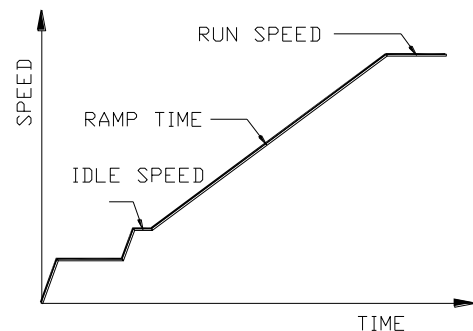

Figure 1
- (1) Before firing the engine, adjust the IDLE Speed to the maximum, and Ramp Time to the minimum.
- (2) Adjust Run Speed to minimum and let Terminal 2 & 3 be Open Circuit.
- (3) Start engine. The engine speed may rev to Run Speed right away. Slowly adjust Run Speed to the rated generator RPM.
- (4) Short Terminal 2 & 3 the engine speed should drop, slowly set IDLE Speed to a comfortable engine IDLE.
- (5) Stop engine and adjust Ramp. Time to it center setting then restart engine. At this time, the engine speed will stay in IDLE and slowly Ramp up to normal engine speed. Adjust to preferred Ramp speed. Refer to Figure 1.
- (6) When operating at normal RPM closing the IDLE SW, decreases engine RPM back to IDLE RPM according to preset Ramp Time.
- (7) To ensure positive engine starts every time follow step (4) and turn the IDLE Speed potentiometer an additional 3 to 5%.